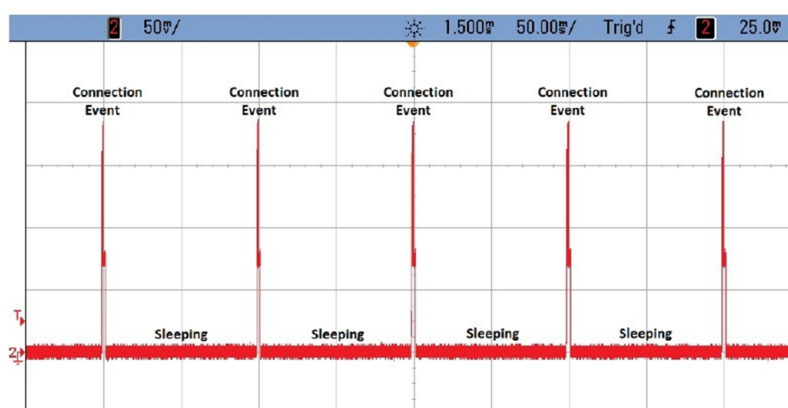

**Figure 11. System Running With LED Flashing**
3. Turn the On/Off switch to the right (with respect to the orientation shown in Figure 11).
6. If needed, connect the CC-DEBUGGER (not included in the kit) to the 10-pin header as shown in Figure 11. If changes to the default firmware are needed, see Section 7.2.